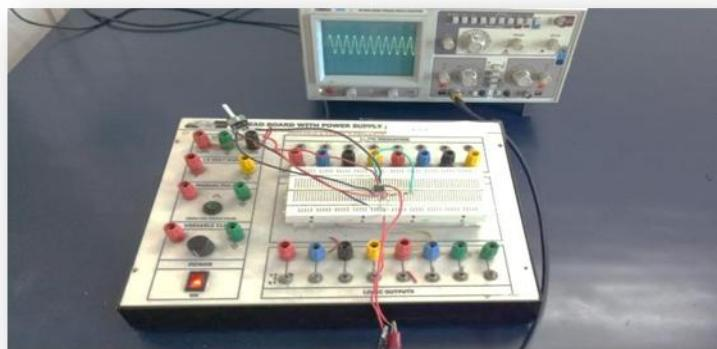

**Figure 14.1: Circuit diagram of wien bridge oscillator**
2. Connect the circuit as per the circuit diagram show in fig 14.1.